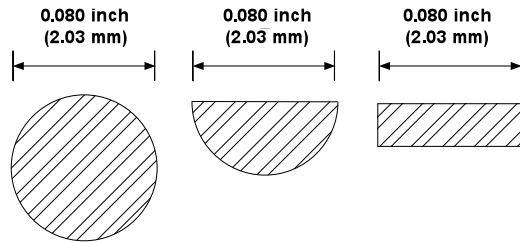

Figure 4 Gate size
- Any gate cross-section that can fit into an 0.080 inch (2.03 mm) diameter circle can be ultrasonically severed. (See Figure 4.) Circular gates give the best results due to their uniform melt. Rectangular gates should not exceed 0.015 inch (0.4 mm) thickness by 0.080 inch (2.03 mm) width.